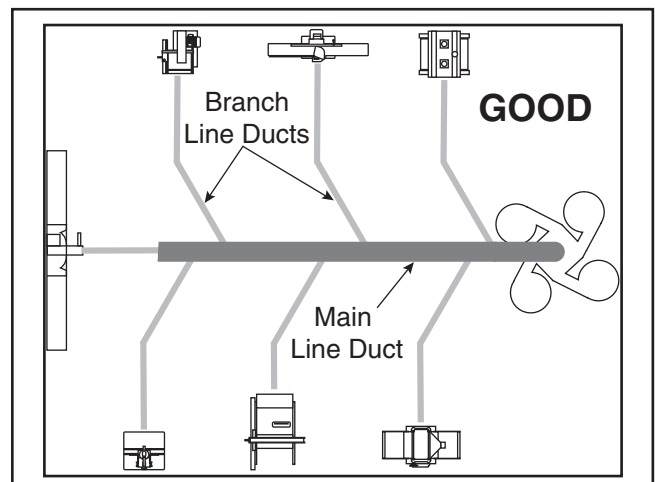

Figure 28. Good duct layout.
2. Ideally, you should design the duct system to have the shortest possible main line and secondary branch ducts. See **Figures 28 & 29** for ideas of good duct layouts vs bad duct layouts.